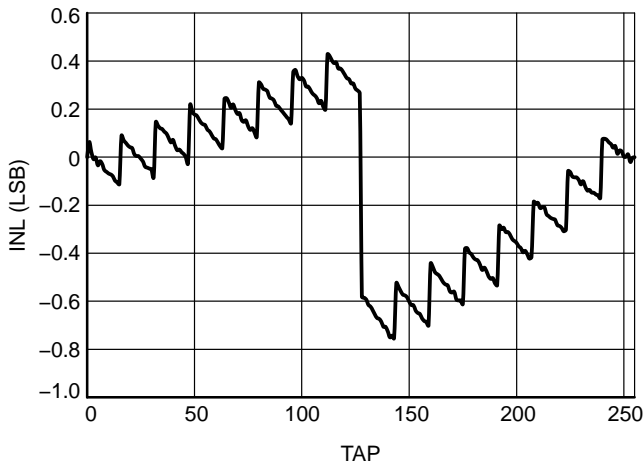

Figure 2. Average Integral Non-Linearity (VCC = 2.4 V) Voltage Divider Mode
4. LSB =  $R_{TOT} / 255$  or  $(R_H - R_L) / 255$ , single pot. For mid-scale detail, please refer to corresponding graphs shown in Figures 2, 3, 4, and 5.